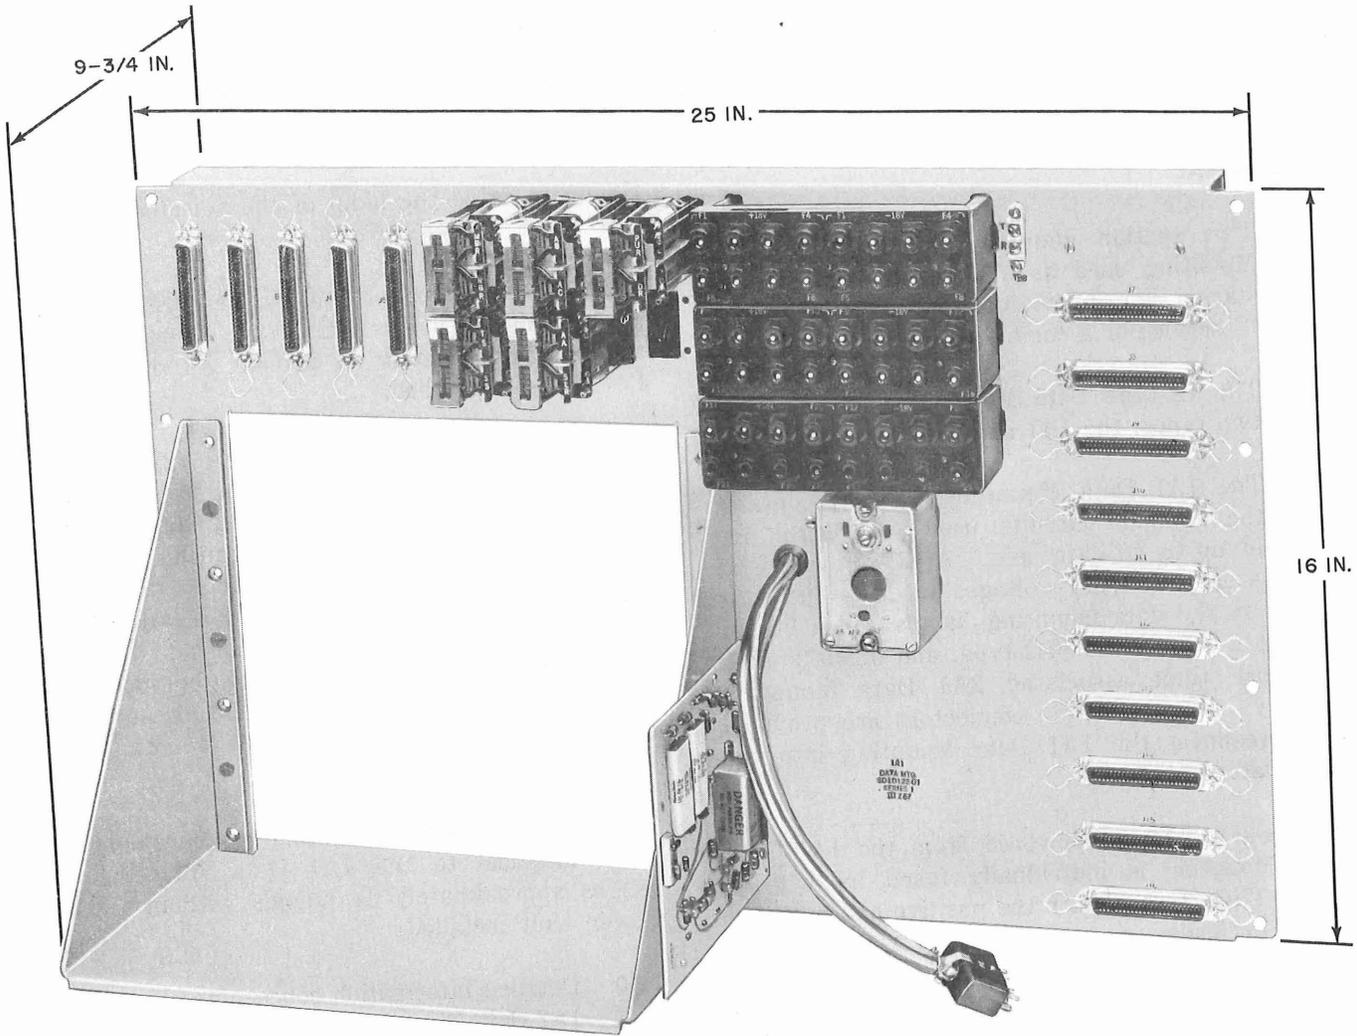

Fig. 1—1A1 Data Mounting, Front View (Power Supply Removed)
1.03 The 1A1 Data Mounting (Fig. 1) contains the common circuits used to control the status of up to 40 data sets. A 31A Power Unit provides the necessary voltages to drive the logic circuits in the data mounting, lamps and a buzzer on Data Auxiliary Set 804J-type, and up to 20 data sets with their associated 2A1 Data Mounting circuitry. Sixteen 50-pin connectors are provided to interconnect the 1A1 Data Mounting into the 103E Data Station.